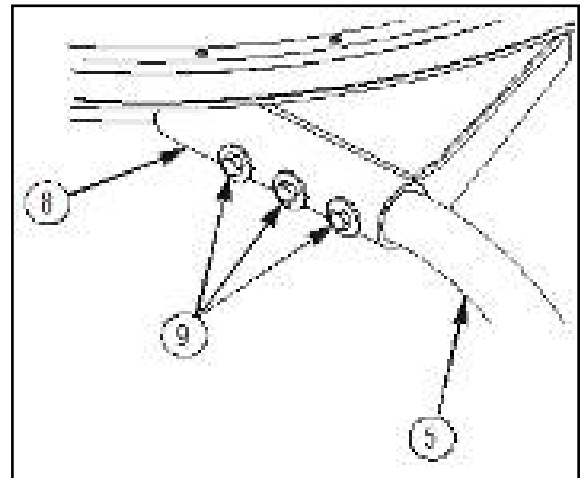

Figure 17d.
3. Loosen three capscrews (9) securing B-pillar support tube (5) to turret support assembly (8) as shown in figure 17d.